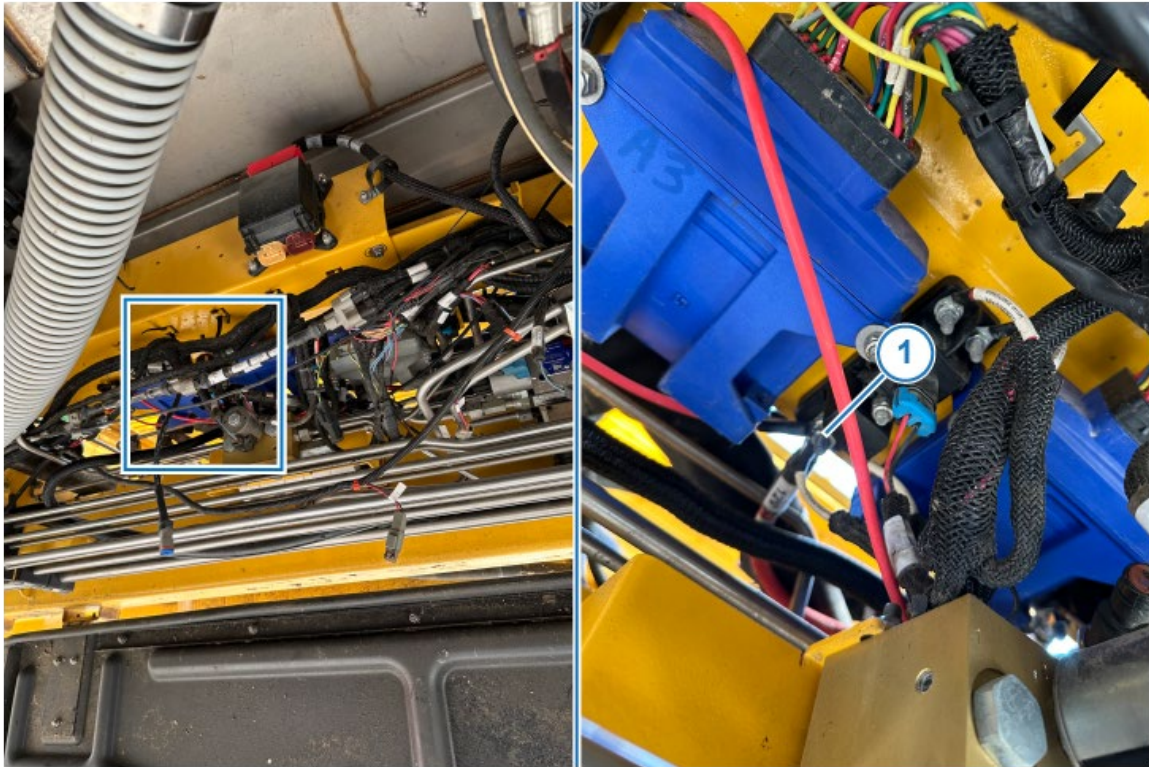

Figure 4 — Power Harness
7. *Figure 4:* Connect the power and ground harness cables to the hub and route them along with the Chassis harness under the cab to the right frame rail.
8. Locate the positive connection point (1) and secure the harness cable with supplied hardware.